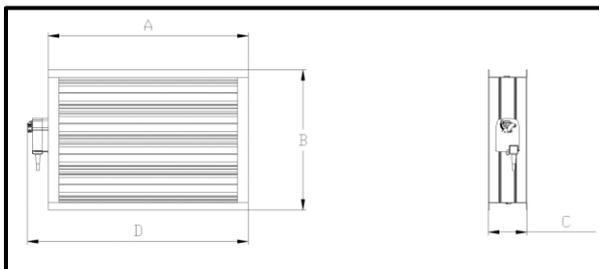

Fig. 88
- Outdoor-exhaust damper dimensions and weights can be seen below (Fig. 88)